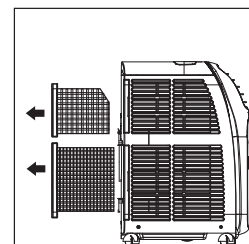

Fig. 18.
- The filters are housed in the intake grille (fig. 18).